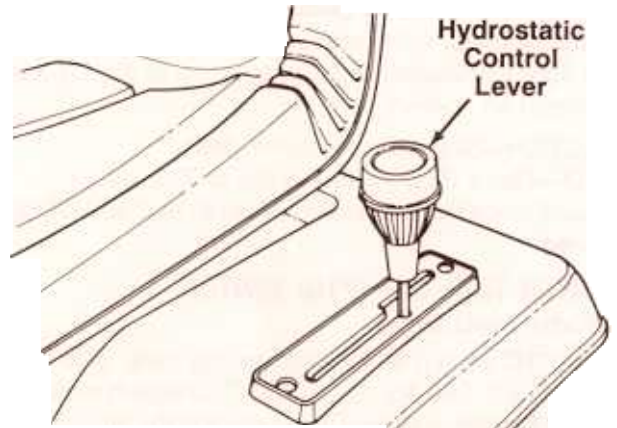

FIGURE 9.
The hydrostatic control lever is located on top of the fender on the left side of the tractor. This single control lever, connected to the hydrostatic transmission, controls both the speed and direction of the tractor. Infinite speed control is achieved by moving the control lever forward or backward. The farther forward or backward you move the control lever, the faster you will travel. Pulling the control lever into neutral (N) area will stop the tractor. See figure 9.